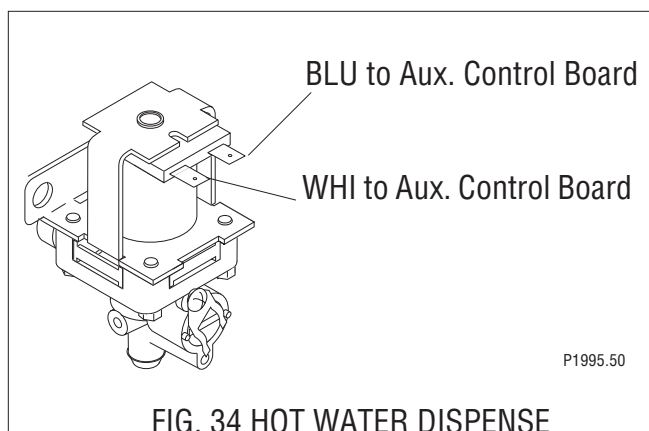

FIG. 34 HOT WATER DISPENSE SOLENOID VALVE WIRING
8. Refer to FIG. 34 when reconnecting the wires.